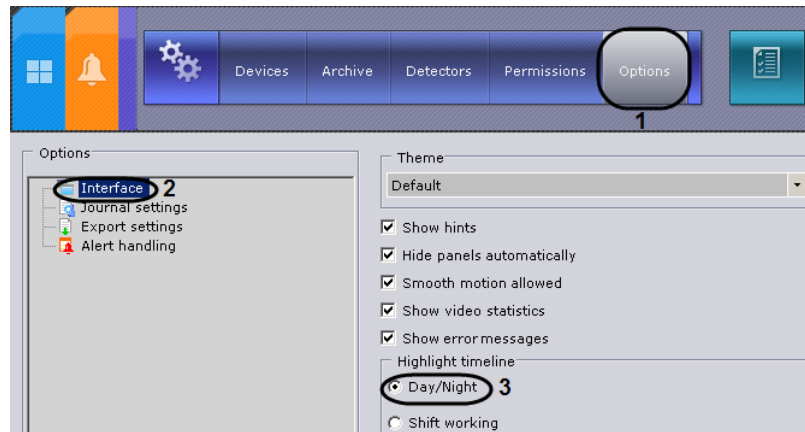

Fig. 6.6—10 Configuring the timeline style. The Day/night style
1. Go to **System settings**⇒**Options**⇒**Interface** (Fig. 6.6—10, 1-2).
2. Select the **Day/night** option button in the **Highlight timeline** configuration group (see Fig. 6.6—10, 3).